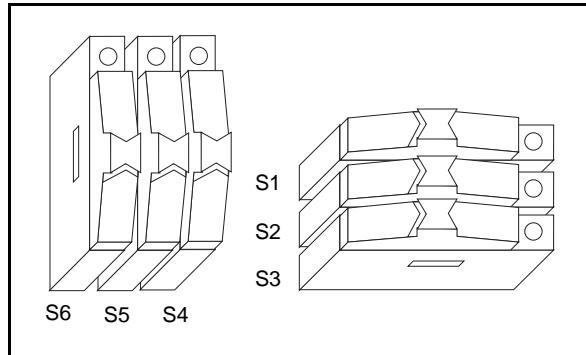

Figure 1. Disabled Temperature Sensor Switch Configuration
To accommodate thermocouples, the SCB-100 100-pin shielded connector block has a temperature sensor for cold-junction compensation. To power the temperature sensor, switches S1, S2, and S3 must be on as shown in Figures 1, 2, and 3. Notice that this also causes the signal accessory power LED to be on. You can configure the temperature sensor in the following three ways:
- To disable the cold-junction compensation temperature sensor so all analog channels are available, switches S4, S5, and S6 should be in the down position as shown in Figure 1.